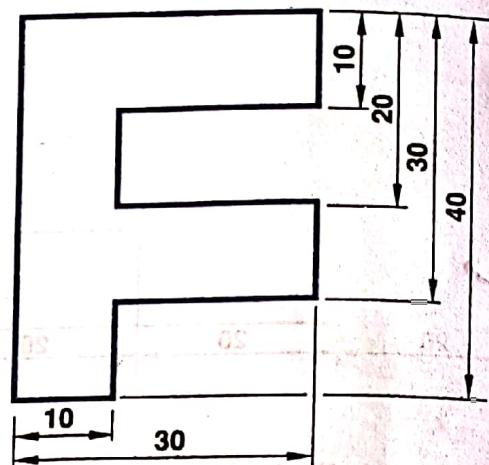

Fig. 3.14 Spacing of the dimension lines
- (iii) Dimension lines should be drawn atleast 5 to 8 mm away from the outlines and from each other as shown in Fig. 3.14.